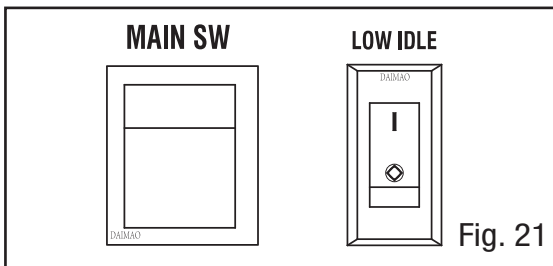

Fig. 21
2. Turn the MAIN switch to the “I” position. Turn the LOW IDLE switch to “0”. (Fig. 21)